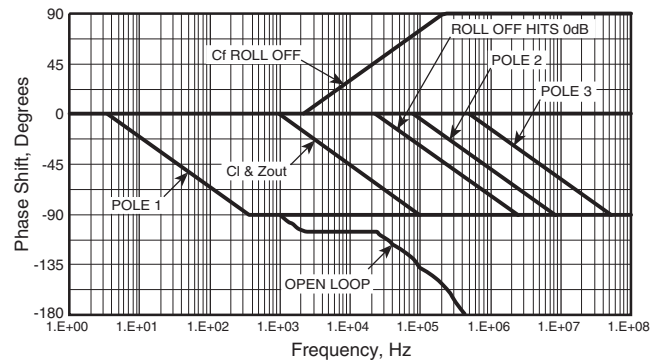

FIGURE 35.
STEP 5: The booster stage of the composite must be stable before we consider the overall composite amplifier. Booster circuit data was entered into the Cload sheet of the Apex Power Design spreadsheet. Initial indications were an intersection rate of 40dB per decade and a phase margin of only 19°. Figure 34 shows Power Design has already added the 150Ω amplifier output impedance to the 15Ω current limit resistor and calculated the pole with the capacitive load to be at 9.6KHz. The booster stage was compensated with C_f producing a closed loop pole (a feedback zero) at 21.3KHz. Do not be confused by sub-Hertz or multi-GHz entries in the table; these show up because the spreadsheet avoids division by zero errors by forcing extremely small values for non-existent capacitors. Refer to Figure 35 to see phase contributions of all elements added, closure frequency of 75KHz, closure rate of 20dB per decade, and a phase margin of 52°.